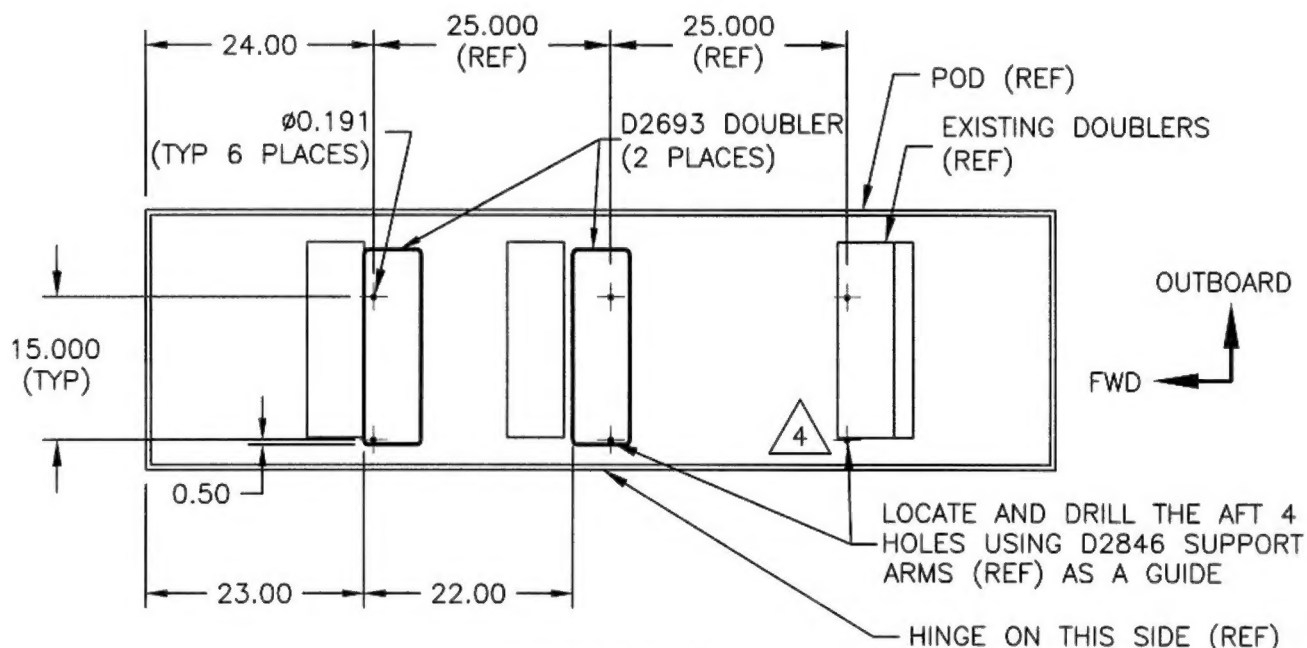

FIGURE 1
- (1) Sand pod on the areas that the D2693 Doublers will be installed to remove spackle paint.
- (2) Locate the two D2693 Doublers in the locations shown in Figure 1. The edge of the doublers should line-up with the radius in the bottom of the pod of the hinge side. Bond in place using any 2-part epoxy. Take note of the orientation of the pod and hinge location when referring to Figure 1 to ensure doublers and holes are placed correctly.
- (3) Drill qty (6) $\varnothing 0.191$ holes by locating and drilling the two forward most holes as shown in Figure 1. Install on aircraft and use the attachment holes on the D2846 Support Arms as a guide to mark and drill the remaining 4 holes.
- (4) The hole at this location (note 4 of Figure 1) may be off the doubler. If it is, fabricate a small doubler to suit from the remaining D2693 Doubler shipped with this kit. Prepare pod and install per items (1) and (2).
- (5) Seal all hole edges with cyanoacrylate glue (crazy glue).
- (6) Touch up spackle paint finish on inside of pod.